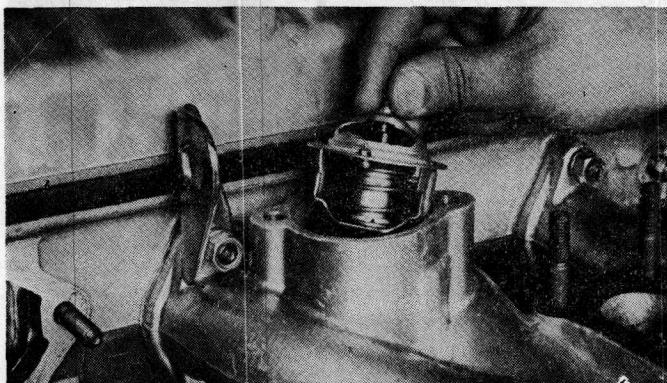
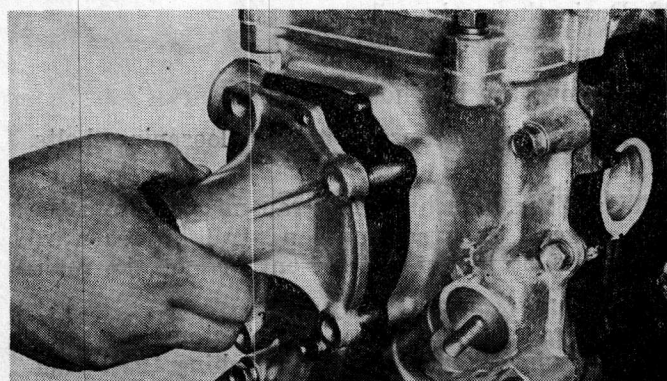

Fig. 19 Removing the Thermostat
Fig. 20 Removing the Water Pump
(16) Remove the water outlet fitting from the intake manifold and then the thermostat. (Fig. 19)
(17) Remove the intake manifold.
(18) Remove the exhaust manifold.
(19) Remove the water pump. Then remove the generator brace. (Fig. 20)